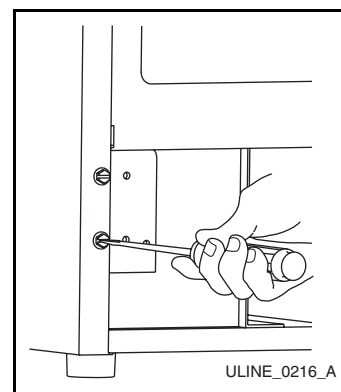

Figure 18
4. Remove screws on opposite side of cabinet (**Figure 18**). Note that there may be a nut behind one or both screws on either side.